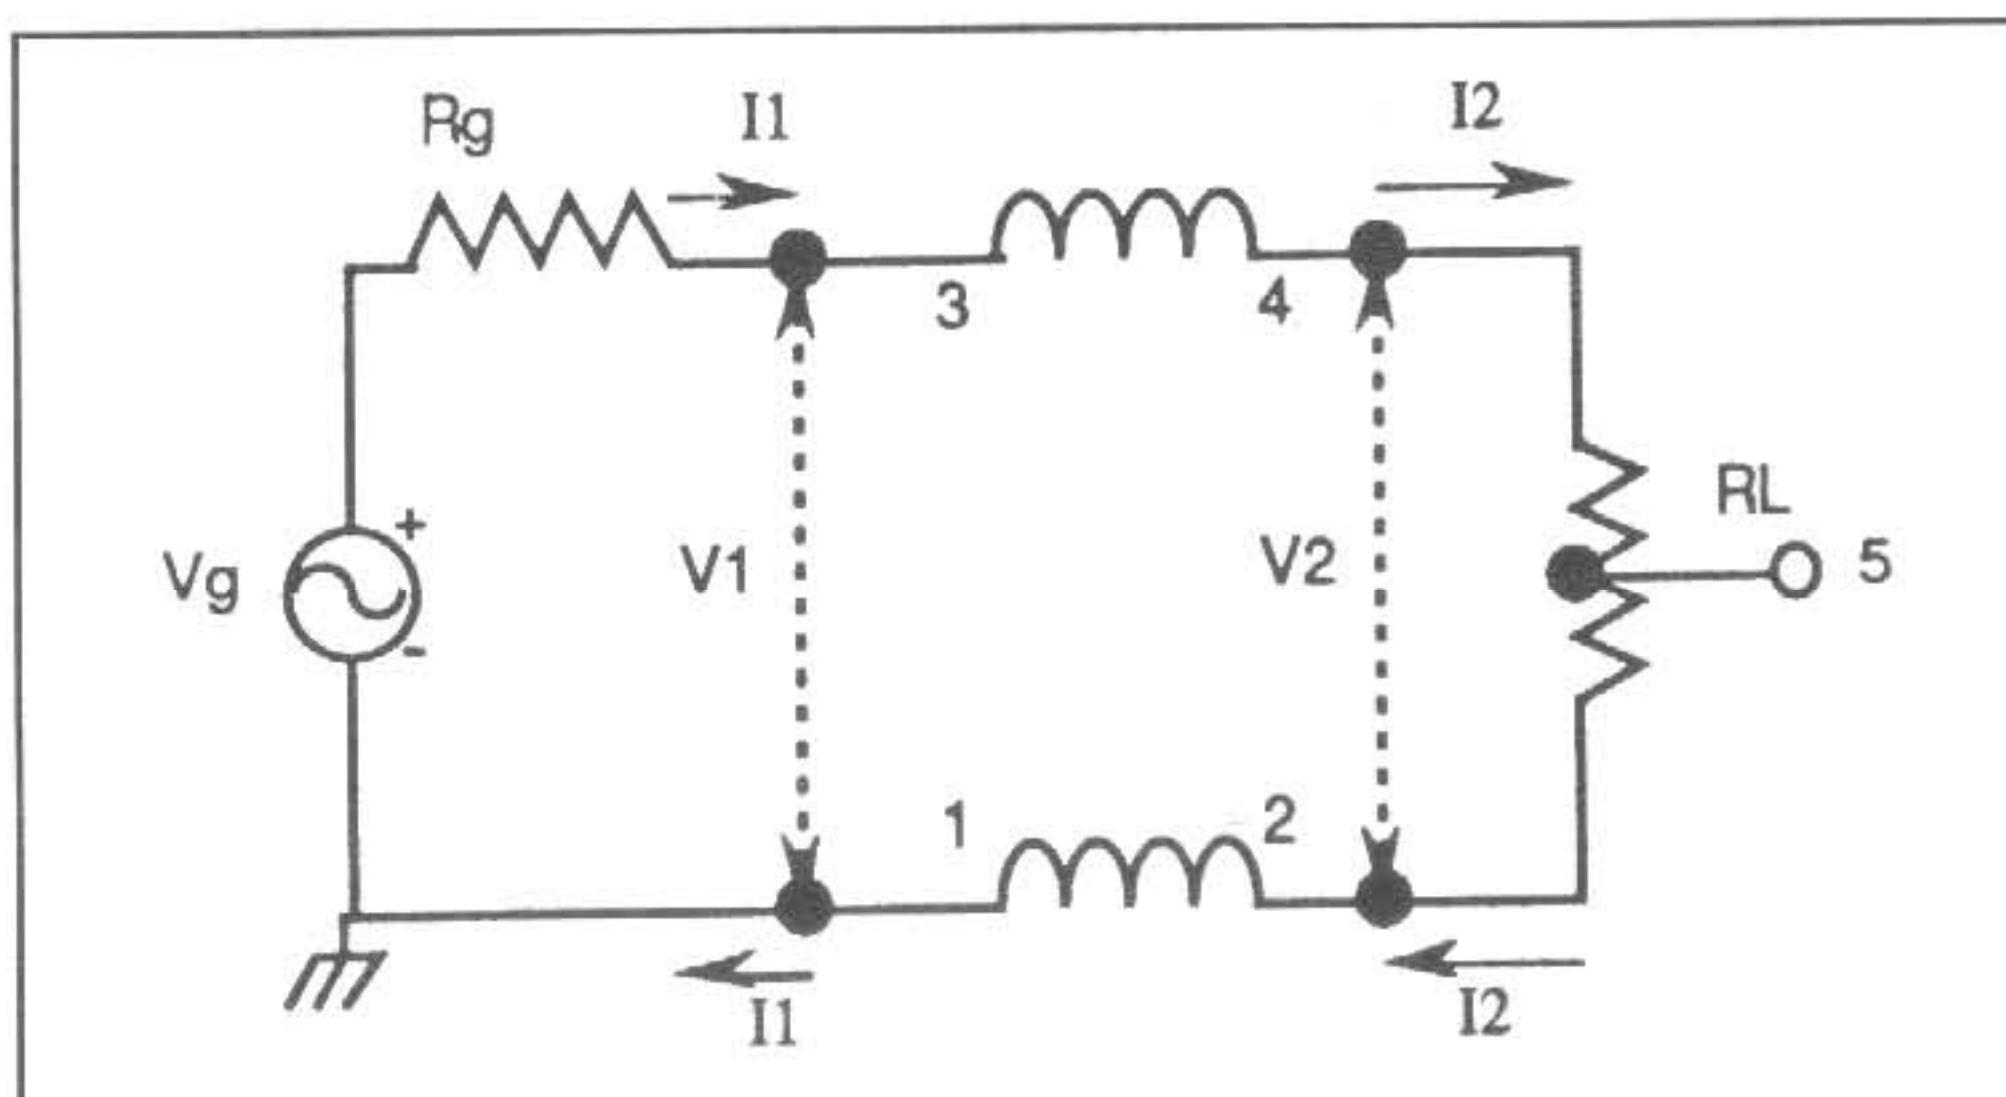

Figure 1. The Guanella 1:1balun : the basic building block
The earliest presentation on transmission line transformers was by Guanella in 1944 (2). He proposed the concept of coiling transmission lines to form a choke that would suppress the undesired mode in balanced-to-unbalanced matching applications. His 1:1 balun, also known as the Basic Building Block, is shown in Figure 1. The choking reactance, which isolates the input from the output, is usually obtained by coiling the transmission line around a ferrite core or by threading the line through ferrite beads. The objectives, in practically all cases, are to have the characteristic impedance, Z_0 , of the transmission line equal to the value of the load, RL , (which is called the optimum characteristic impedance) and to have the choking reactance much greater than RL (and hence Z_0). Meeting these objectives results in a 'flat' line and hence maximum high-frequency response and maximum efficiency since conventional transformer currents are suppressed.